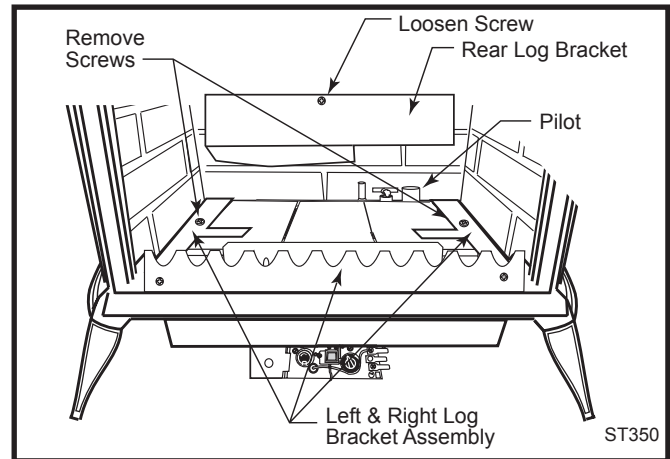

Fig. 26 Remove rear log bracket and left and right log bracket assembly.
5. Remove the rear log bracket by loosening the screw and sliding the bracket up. **CAUTION:** Do not remove the screw completely. It would be very difficult to replace. (Fig. 26)
6. Remove the right and left log bracket assembly by unfastening the two screws which hold the burner in place. (Fig. 26)
14. Locate pilot. (Fig. 26)